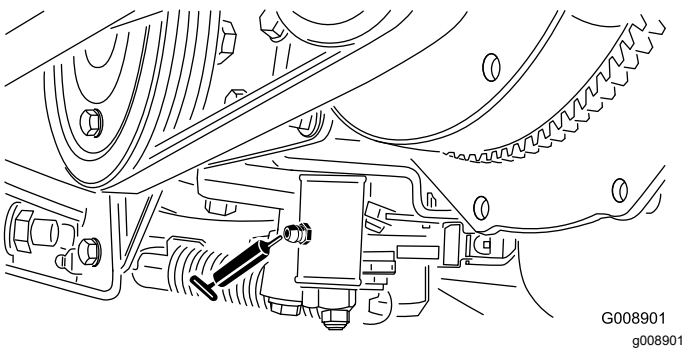

Figure 44
- Neutral adjust mechanism (Figure 44)